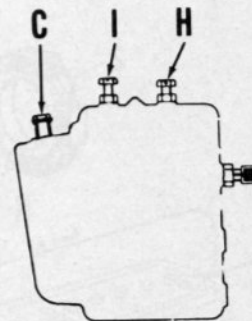

Fig. L3-3—Drawing showing location of low idle speed screw (I), high idle speed screw (H) and torque control screw (C) on all models except 834 and L54.
Idle speed is adjusted by turning idle speed screw (I—Fig. L3-3). Idle speed should be 900-950 rpm. Maximum governed speed is adjusted by turning high speed screw (H). Maximum governed speed under load is 2200 rpm for Models L27 and L40, and 2600 rpm for Models 832 and 833.